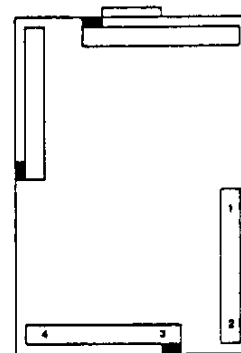

FIGURE 10
- Equalize all indications by placing appropriate shim or combination of shims at the point listed in the following chart using a trial and error method. Refer to Figure 10 for shim placement locations.